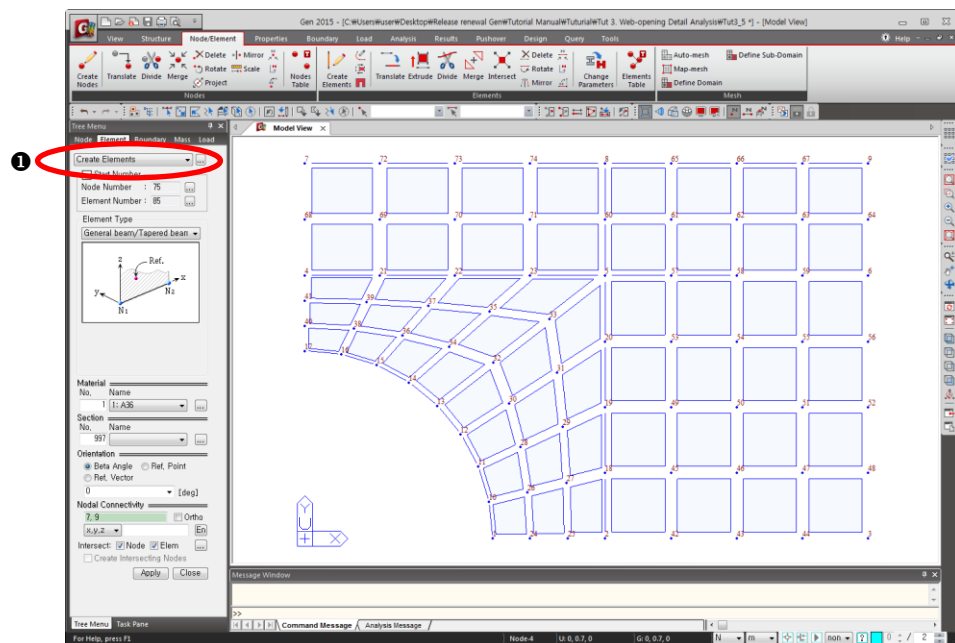

Figure 3.8 Generation of Beam Elements at the Reinforcing and Flange Plates
1. Select **Create Elements** in the functions selection field (Fig.3.8–①).